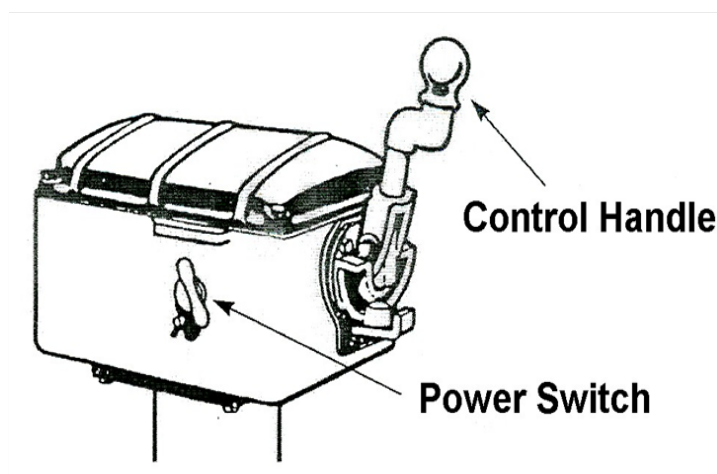

Figure 3-32
- a. Turn each power switch ON, one at a time and listen for the fan to come on (see Figure 3-32).